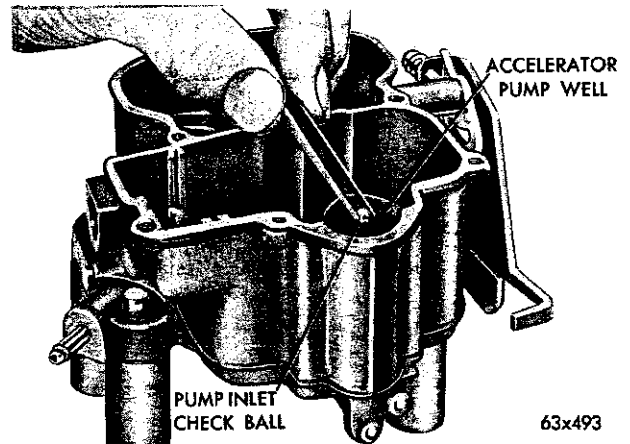

Fig. 12—Installing Accelerator Pump Inlet Check Ball
(4) Install the accelerator pump inlet check ball ($\frac{3}{16}$ inch) in the pump well, as shown in Figure 12.